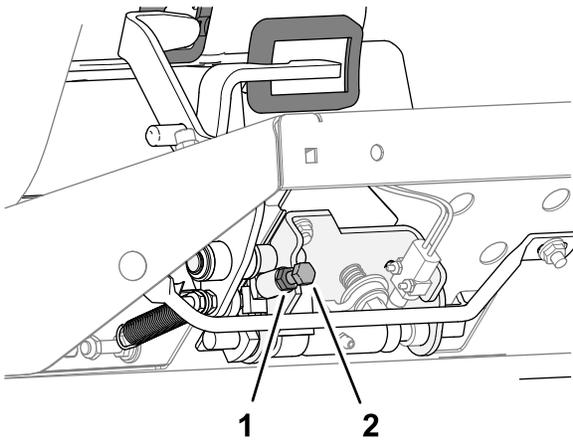

Figure 82
- To decrease the mow speed, rotate the speed stop screw (Figure 82) clockwise.